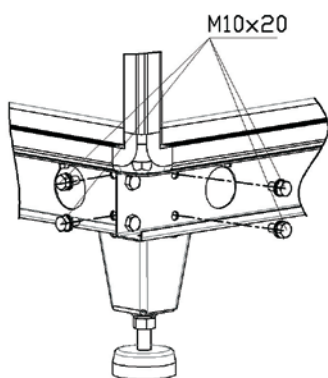

Figure 12
- The legs are to be mounted on site. Mount the legs to the base frame from the inner side with M10x20 bolts, as shown in Figure 12.